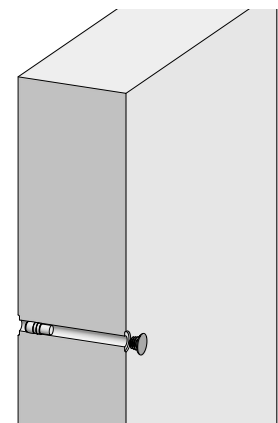

Fig. 72.5
4. Remove the hammering aid and plug the tie hole (Fig. 72.5 and page ST XT-71).